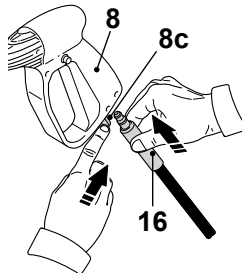

Fig. 5
1. Push the latch (8c) on the spray gun (8) to open the connecting port and insert the connector of the high pressure hose (16) (Fig. 5)
2. Release the latch (8c) to lock the hose (16) in place.